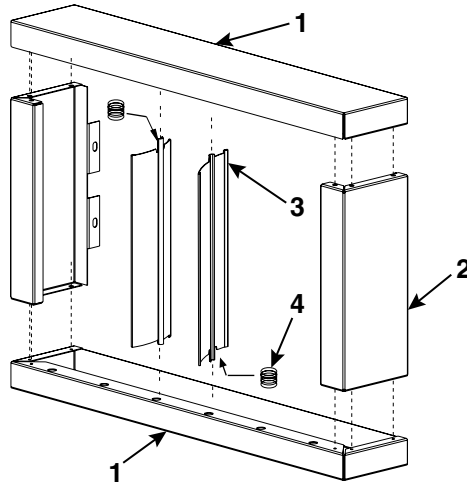

Figure 34. Vertical Louver Assembly—RV Models, Unit Sizes 225 and 325 (Refer to Table 23)
- The vertical louver assembly for RV models—unit sizes 225 and 325—is shown in Figure 34.